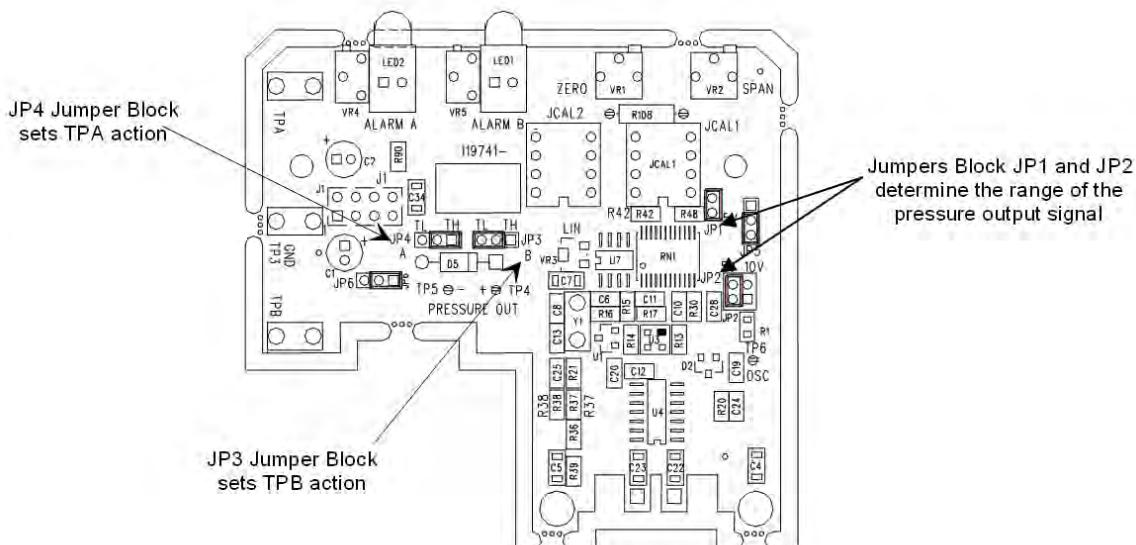

Figure 14 - Jumper Positions on the Transducer Board
Each trip point has a test jack that allows you to measure the trip point setting. The test jacks are located inside the unit. Figure 14 shows the location of the test jacks and a ground connection. The trip point adjustment pots, located on the top of the unit, allow you to vary the trip point setting.
4. Locate the jumper blocks labeled "JP4" and "JP3" in the middle of the Transducer board. Refer to Figure 14 for the location of the jumper blocks.
The ground connection and the test jacks are located inside the unit on the Transducer board, as shown Figure 14. A 0 to 5 V signal corresponds to a 0 to 100% full scale pressure.
Refer to Figure 14 for the location of the "JP2" jumper block.